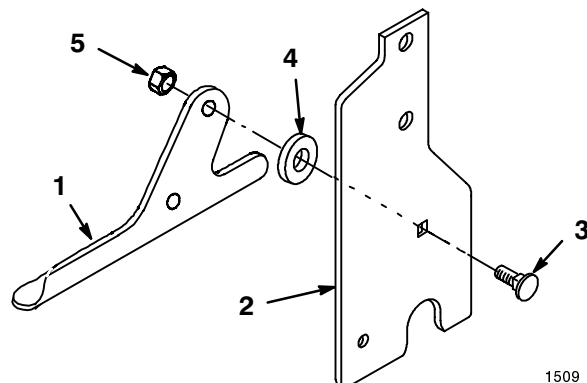

Figure 3
5. Install latch levers to mounting plates with carriage bolts (head on the outside) washers and lock nuts (Fig. 3).